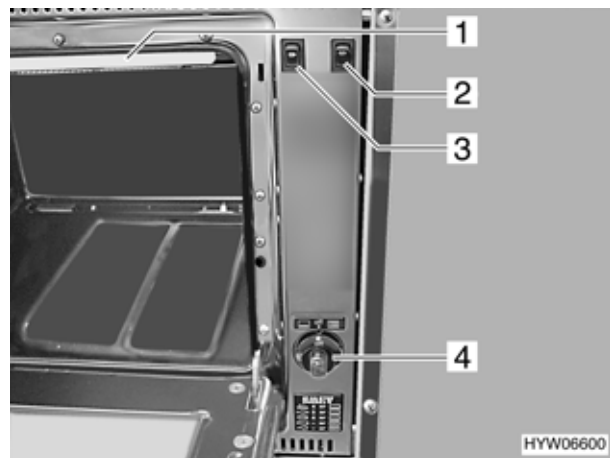

Fig. 125 Gas oven
- Set control knob (Fig. 125,4) to baking  or grilling .
- Turn control knob (Fig. 125,4) to position "off".
- ▶ When grilling remove heat protection (Fig. 125,1) and leave oven flap half open.
- ▶ The spit motor can be started with the rocker switch (Fig. 125,3) during grilling or baking.